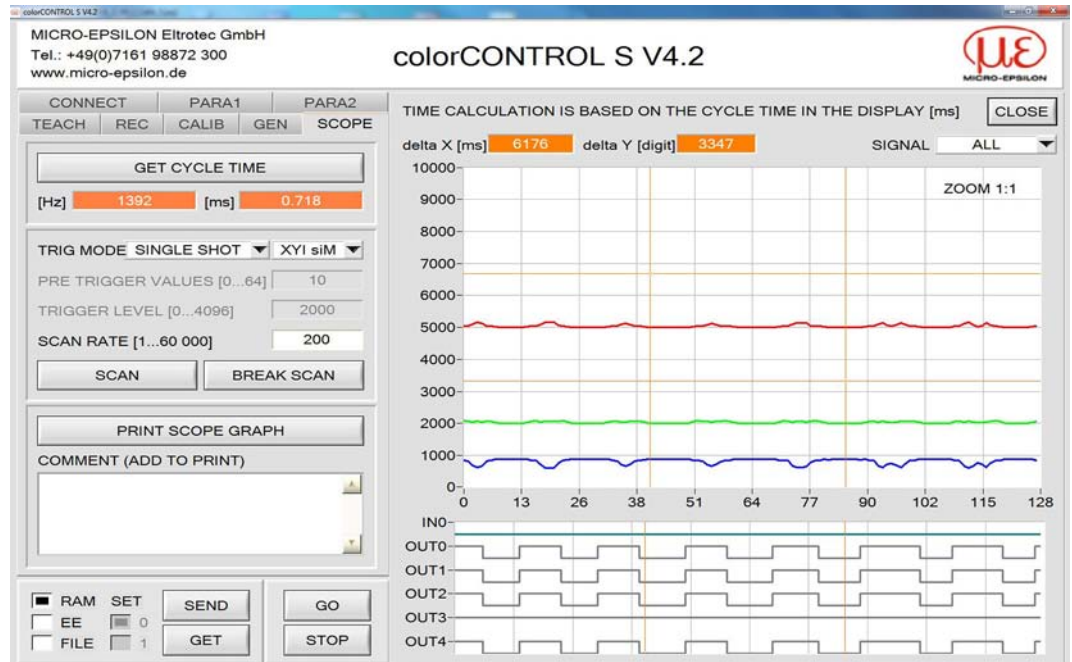

Fig. 61 SCOPE tab
- PRINT SCOPE GRAPH prints the current screen including any text in the COMMENT text field, see Fig. 61.